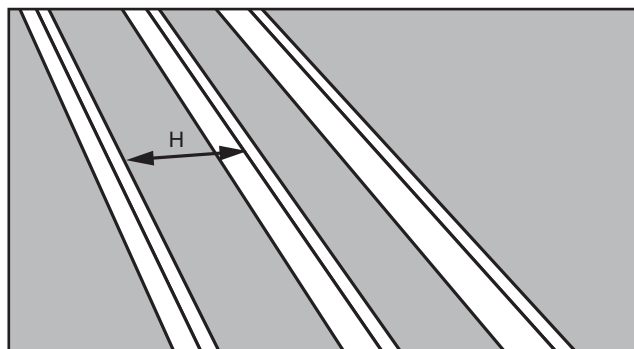

FIGURE 11
**STEP 1.** Measure the header length "H" between the joists (See Figure 11).